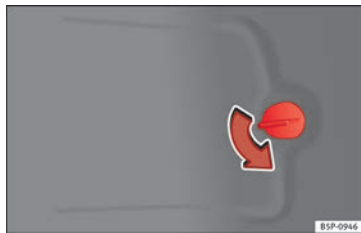

Fig. 189 Lights on the vehicle body.
- Open the cover of the luggage compartment side panel » **Fig. 189.**